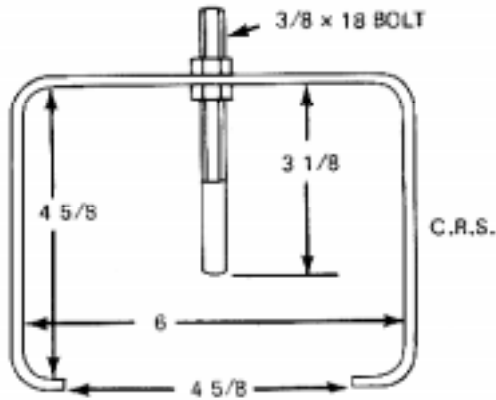
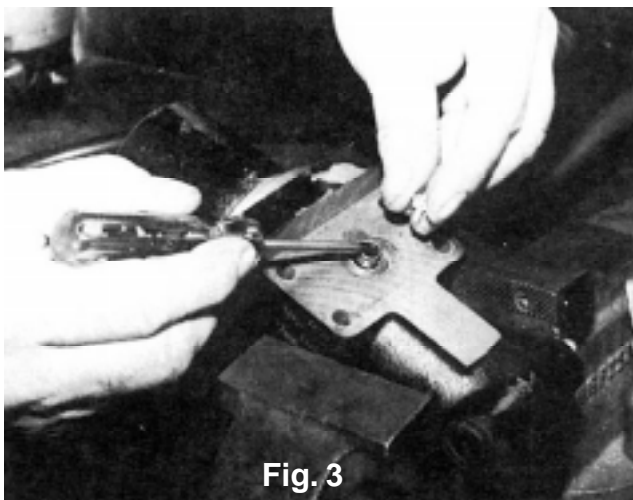

Fig. 2
Fig. 3
4. Secure master cylinder in a vise. Depress piston (1) Fig.1 at least 1/2 inch and hold. This may be done with a simple tool as shown in Figures 2 and 4. Remove the four self-threading bolts (9) securing the adapter block or the reservoir to the master cylinder. Remove the adapter block or reservoir and the compensating valve (3) and spring (4). See Fig. 3. **CAUTION!!! The compensating valve must be removed before any attempt is made to remove the hydraulic piston assembly.**
5. Remove retaining ring (7) and stop washer (6).
6. Remove piston holding tool and remove piston (1) and spring (11).
7. Remove cap nut (10) from adapter block. Remove O-Ring (2) from cap nut and compensating valve seal (5) from adapter block or reservoir.